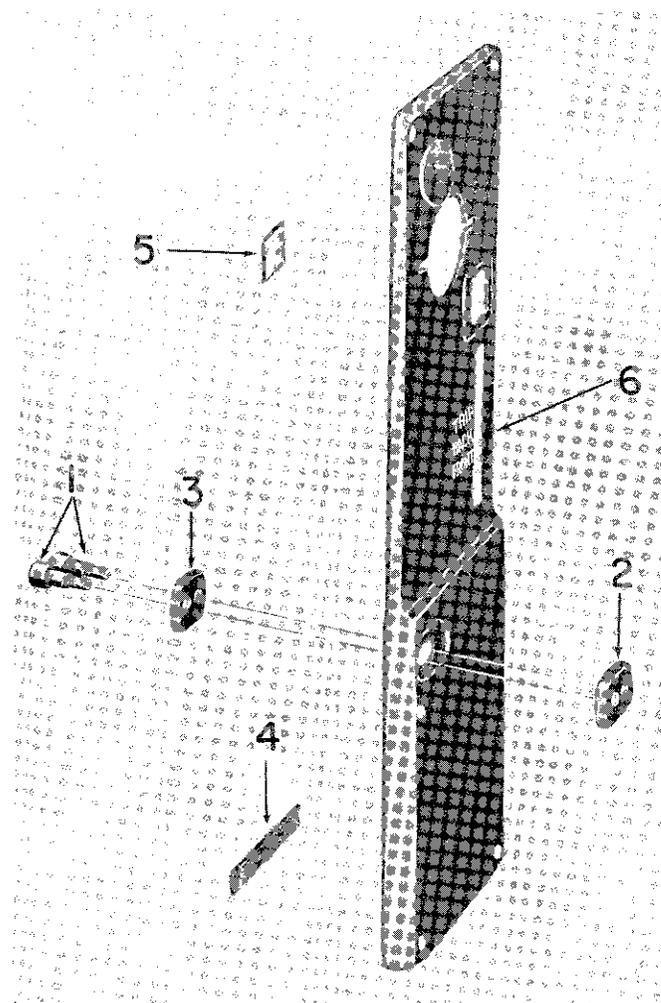
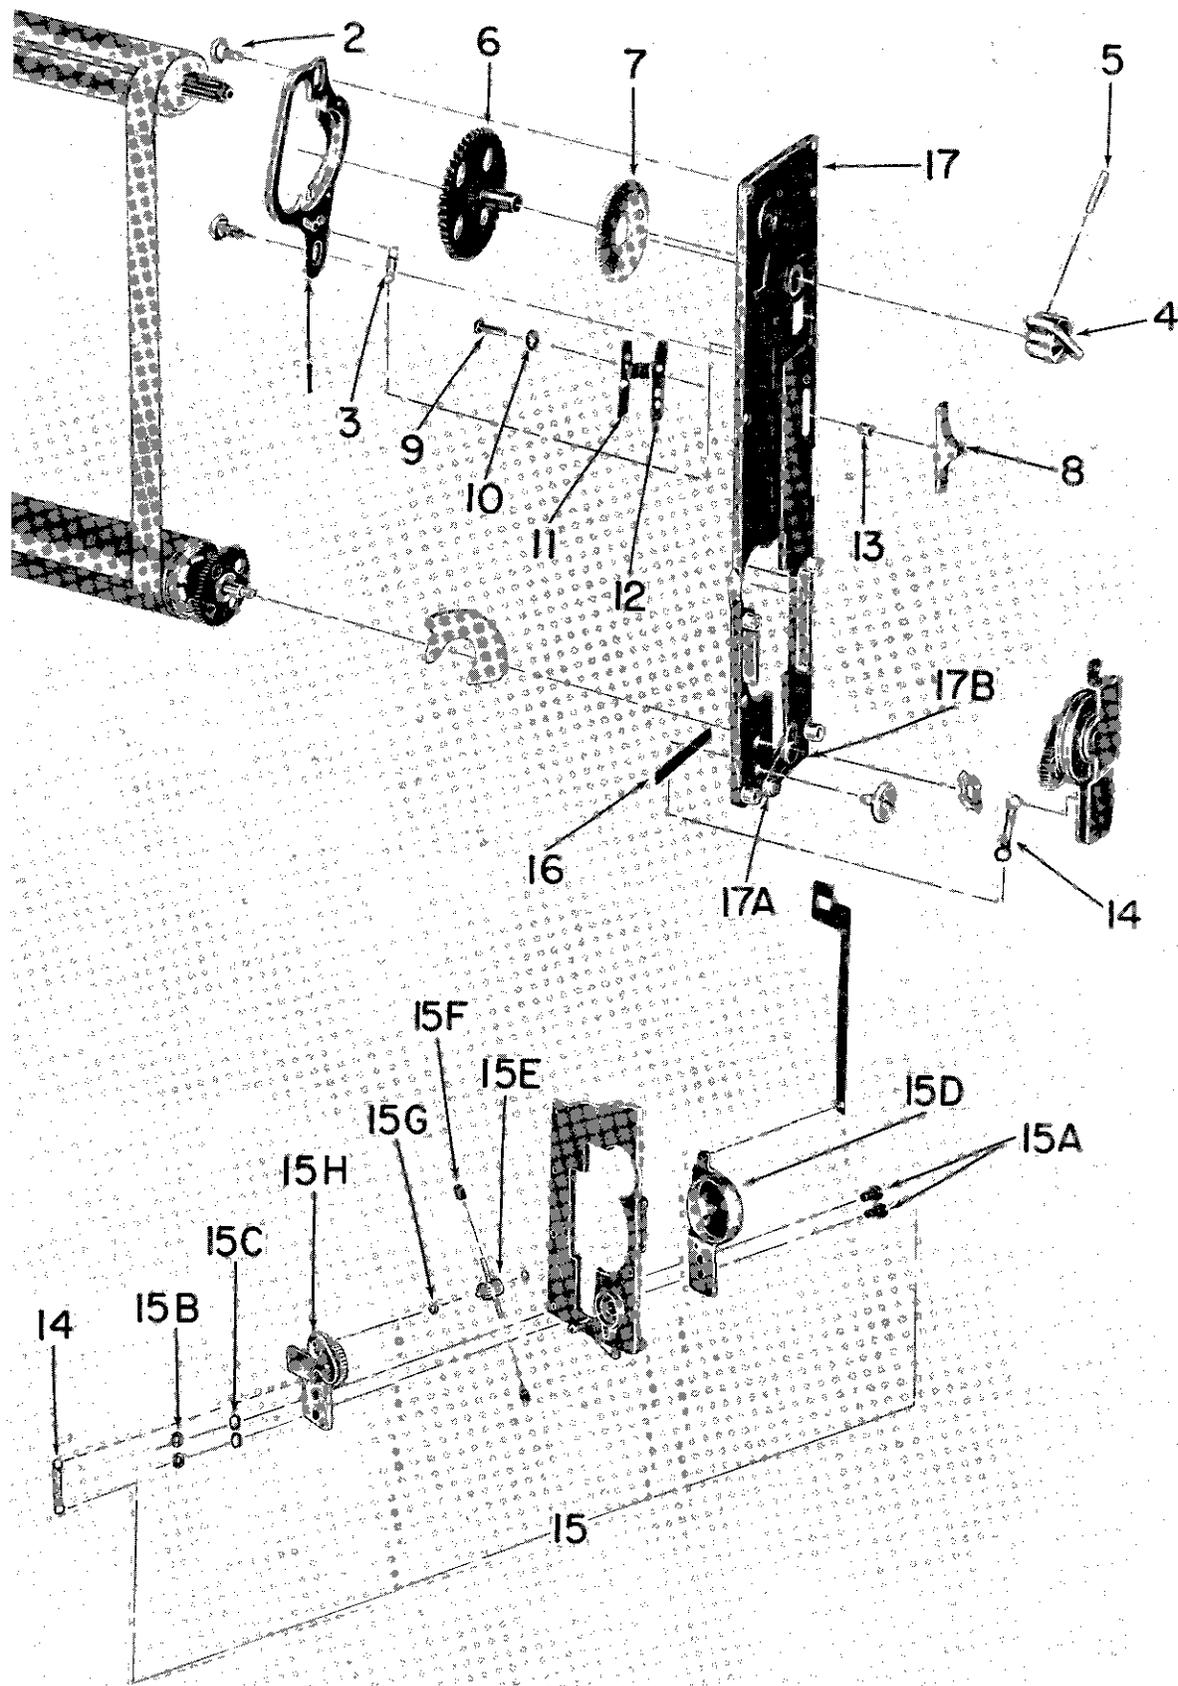

Figure 5. Shutter Plate Cover Assembly,
Figure 6. Shutter Mechanism Plate Assembly, Exploded View
tension shaft retainer (6). Swing the retard cam lever assembly (17A, figure 6) forward to raise the governor. Remove four wood screws (8, figure 2) and lift the shutter mechanism plate assembly (4) from the camera.
(1) Escapement, Master Gear, Winding Key. The escapement (1, figure 6) is secured by two escapement screws (2). Remove and unhook the escapement spring (3). Remove the taper pin (5), the winding key assembly (4) and then the master gear assembly (6) from the inside. Lift the shutter dial (7) from the inside.
(2) Shift Slide (8). To remove, unscrew the machine screw (9) and lock washer (10). Lift off the shift slide spring (11) and the shift side plate (12) and the shift slide spacer (13).
(a) Tear out the tension roller seal (10), cemented around the lower tension roller gear. (This seal is no longer considered necessary and can be discarded since light seals (4, figure 5) and (16, figure 6) are sufficient protection.)
(4, figure 5) to remove dust and grit that may have collected.
Clean all parts of the shutter plate (figure 6) with solvent, trichlorethylene (AN-T-37a). Dry all parts thoroughly before reassembly. Check the springs (3 and 14); replace if stretched or deformed. Inspect the gears for worn teeth and loose stop pins.
If the governor assembly (15, figure 6) has been dismantled, lubricate by wiping the outside ends of the governor shoes (15F) and governor pinion assembly (15E) with graphite powder, AN-G-24. The governor shoes must slide freely on the cross shaft of the pinion assembly. Reassemble the governor as follows: